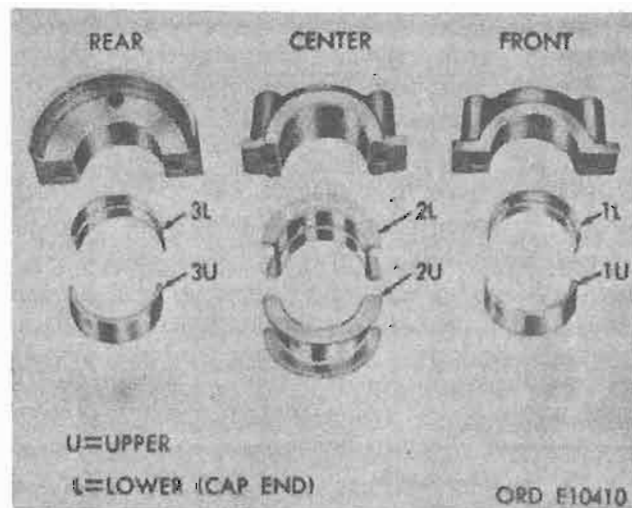

Figure 4-116. Main bearings.
f. **Main Bearings.** Remove the bearing halves in cylinder block main bearing bores. Be sure main bearings are marked showing their original position. Mark with grease pencil if no other marks are evident (fig. 4-116).